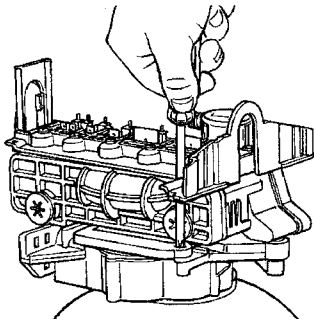

Figure 15
- To remove the valve, remove the screw in the locking bar, Figure 15.